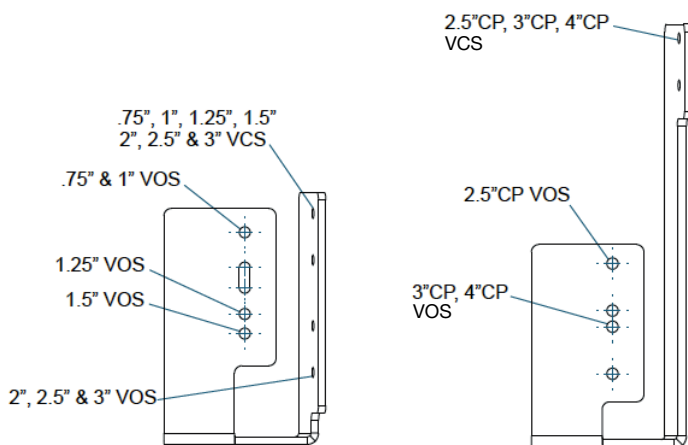

Figure 4:
- Note wand position and mounting hole location. Carefully remove the 2 screws and lift existing switch. Reference Figures 4 through 9 on page 24 (ADD SWITCHES) to ensure correct switch location.
- Reference Figures 4 through 9 (below) to ensure correct switch location. Valve size is depicted in the model number by the first 4 dig- its. For example, a 3" CP valve should have Model No. 300C.